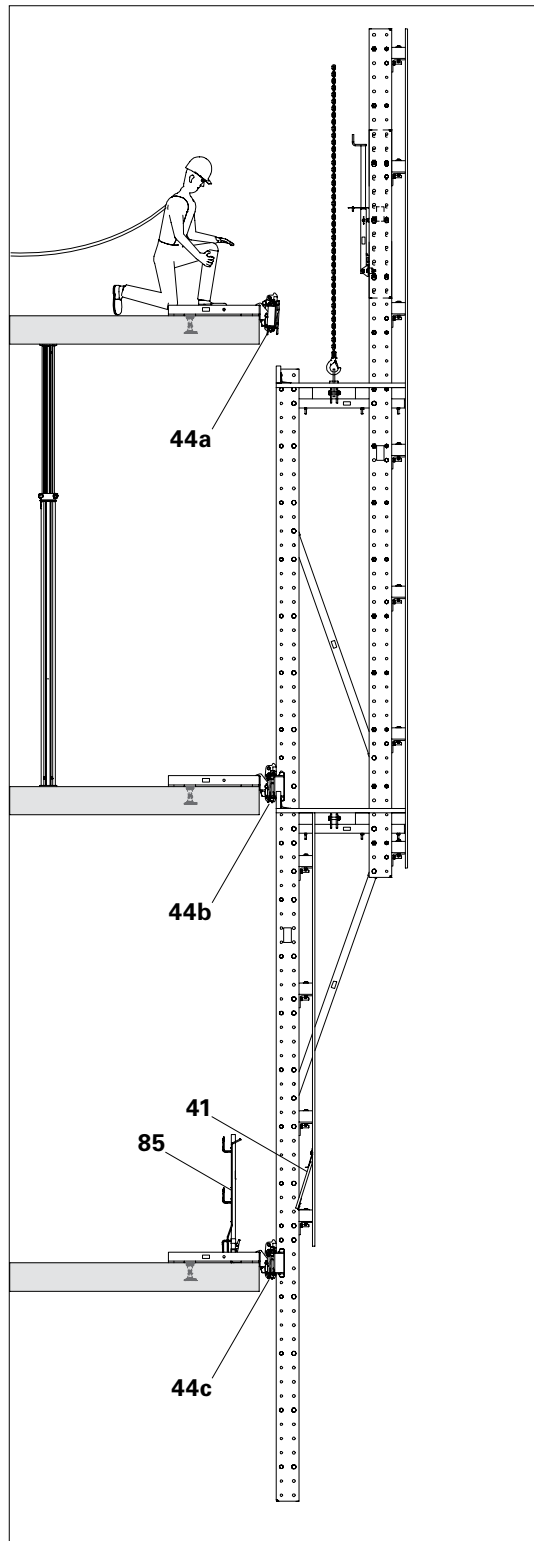

Fig. D3.01
5. Mount trailing guardrails (85).
6. Fold up Foldable Covers (41) and secure.
- (Fig. D3.01)